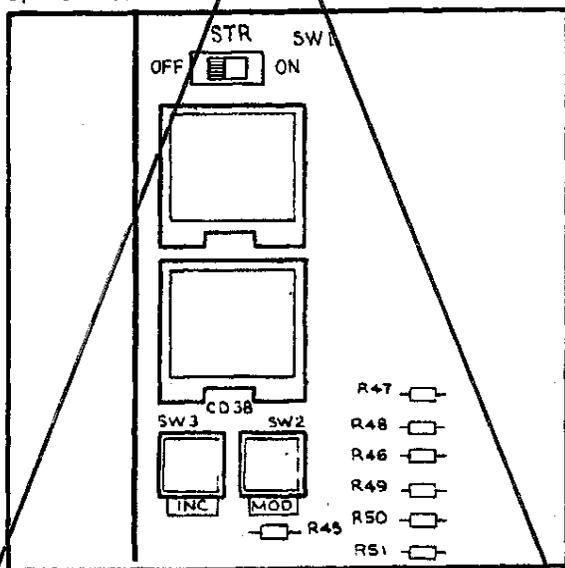

FIGURE 32
08.24 The HSMB is equipped with three switches and two LEDs (Figure 32). Looking from top to bottom, the functions of the switches are as follows:
1) Verify that the battery is connected on the HSMB (Figure 32).